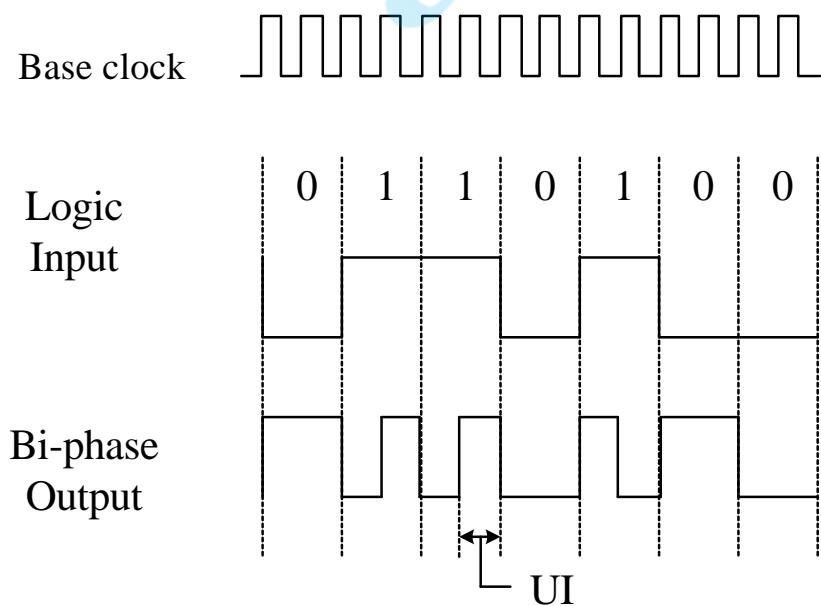

Fig. 6.3.2 S/PDIF biphasic-mark-code (BMC).
The S/PDIF data signal is coded by the “biphase-mark-code,” which is a kind of phase modulation. It is illustrated in Fig. 6.3.2. The base clock of a S/PDIF signal is twice the bit rate, and the frequency of the base clock is only determined by the sampling rate. The period of the base clock is called the Unit interval (UI). For example, for a 48KHz 2-channel S/PDIF signal, the frame rate is also 48KHz, so a frame period is 20.833us, and a subframe period is 10.416us. A subframe contains 32-bit slot, so a bit slot period is 325.52ns. As we said above, the base clock is twice the bit rate. Therefore, the period of the base clock is 162.76ns. In other words, the frequency of base clock is 6.144 MHz. Bi-phase coding can prevent PCM data from DC isolated and insensitive to level polarity. A maximum up to 24 data bits can be transmitted by the S/PDIF signal, and the sequence is from LSB to MSB.